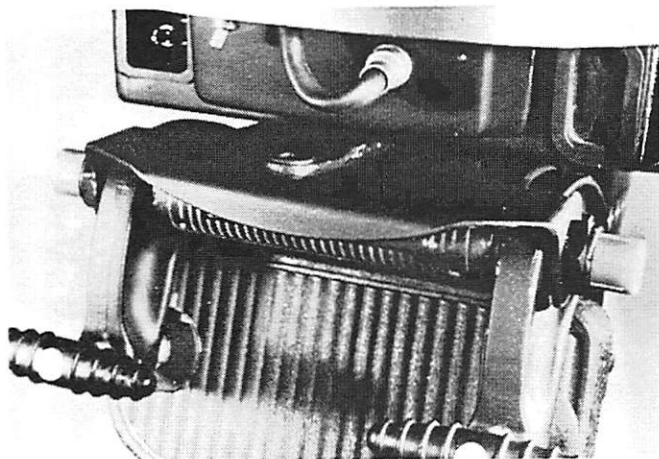

Figure 2. Support Plate Installed
5. Thread elastic stop nuts on tilt tube and, while holding leading edge of support plate up, tighten nuts securely. (Figure 2)